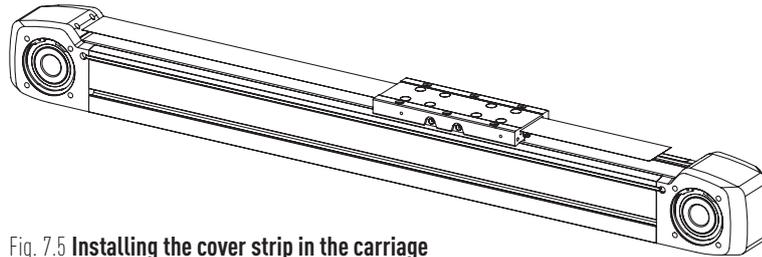

Fig. 7.5 Installing the cover strip in the carriage
- ▶ Insert the cover strip through the upper opening in the carriage profile as shown in Fig. 7.5.